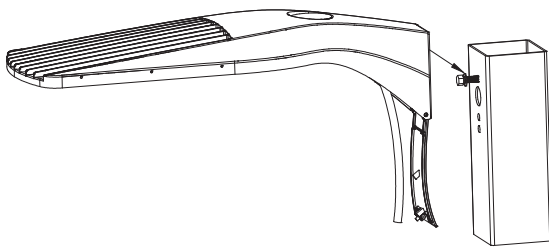

Fig 5
- 1.Hang the fixture onto the partially tightened screws.(Fig 5)